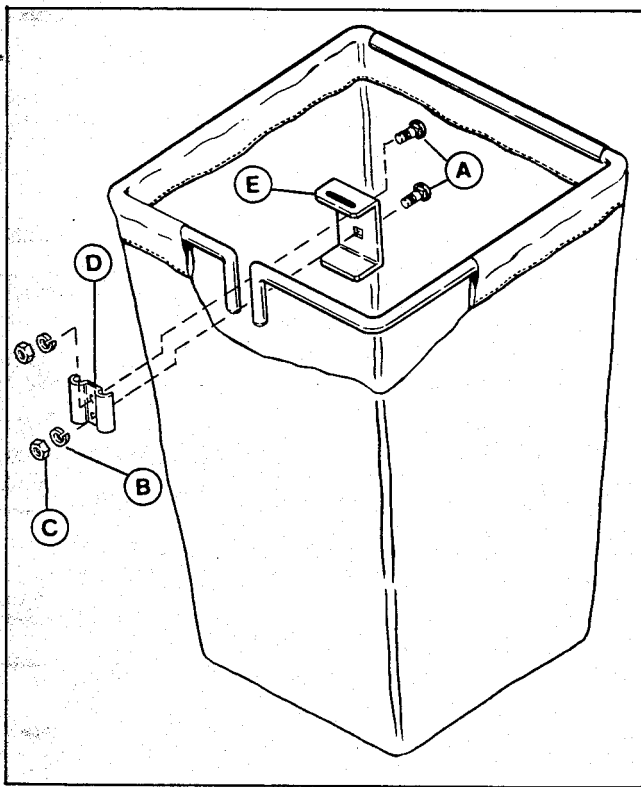

Figure 38.
- Connect brakes to the bag frames with slot in bracket toward top (figure 38). The cloth is shown cut away for clarity only. Be sure brackets are outside the bag.
If bag does not hang straight, loosen nuts (c. figure 38) and twist hoop. Then re-tighten nut.